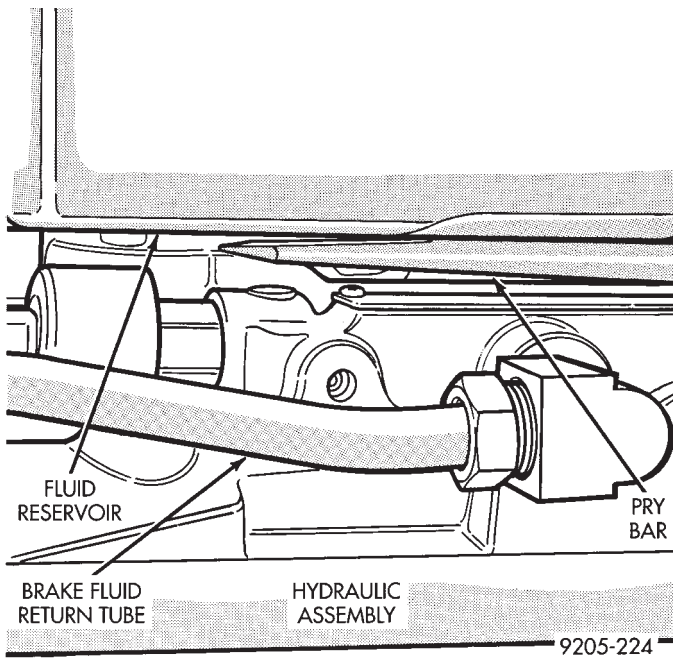

Fig. 12 Remove Reservoir From Hydraulic Assembly
(5) Remove reservoir from hydraulic assembly by CAREFULLY prying between reservoir and hydraulic assembly with a blunt prying tool (Fig. 12). Use a rocking motion to help disengage reservoir from grommets while prying. **BE EXTREMELY CAREFUL TO AVOID DAMAGING OR PUNCTURING RESERVOIR DURING THIS PROCEDURE.**
(6) Remove the brake fluid level sensor switch from the reservoir.